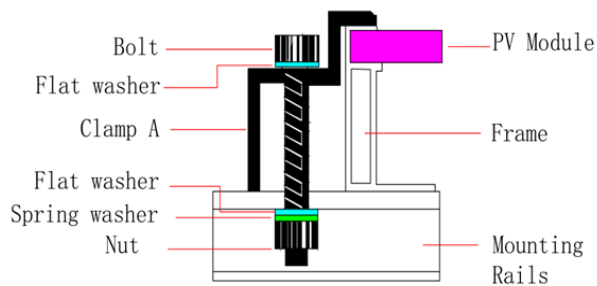
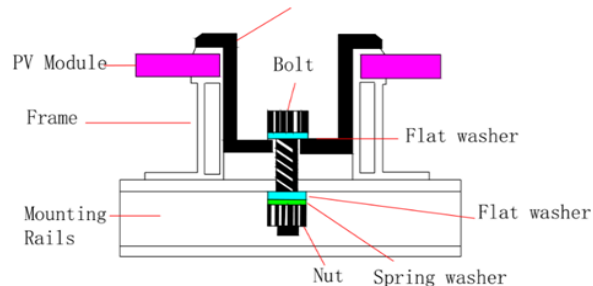

figure4
figure 5
- Clamp material should be anodized aluminum alloy or stainless steel. The mounting details are shown in the following figures4 and figures5.